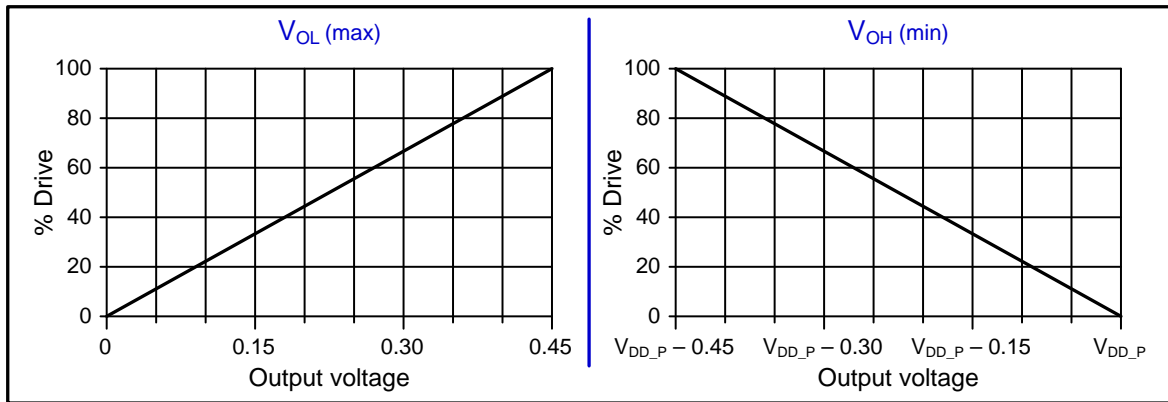

Figure 3-1 IV curve for V_{OL} and V_{OH} (valid for all V_{DD_Px})
2. In all digital I/O cases, V_{OL} and V_{OH} are linear functions with respect to the drive current (given in Table 2-3). They can be calculated using the relationships expressed in Figure 3-1.